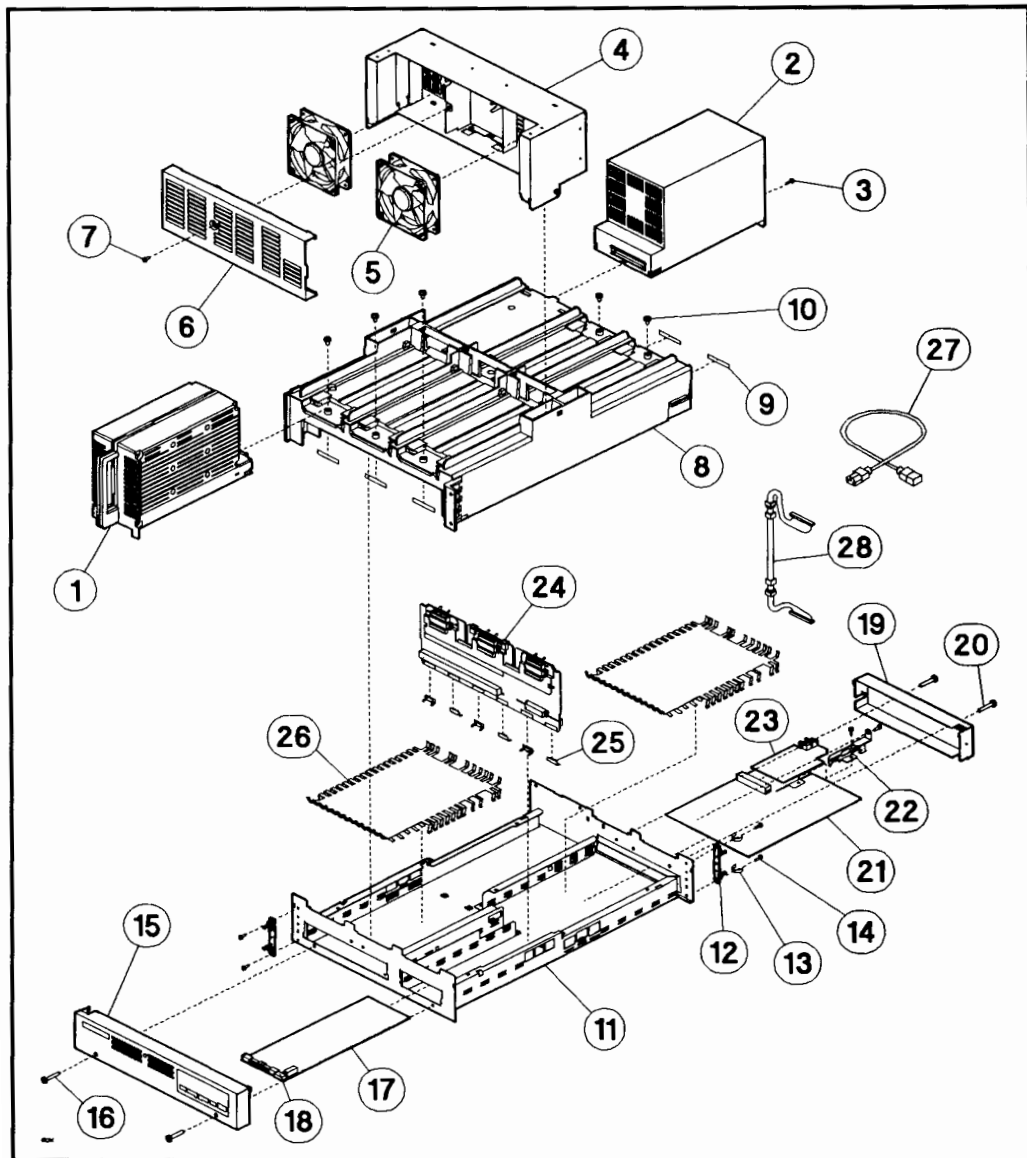

Figure 7-2. Disk Array Base Exploded View
To remove a backplane PCA (see Figure 7-2):
- Replaceable parts for the disk array base are listed in Table 7-2 and shown in Figure 7-2.